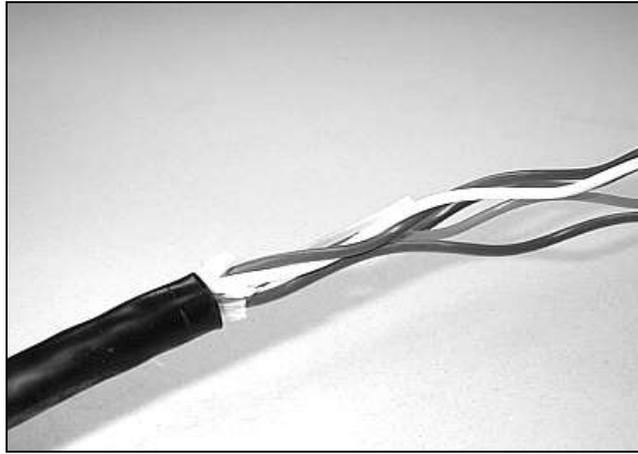

Figure 10 - Unwrap the buffer tubes.
4.10 Carefully unwrap the buffer tubes from one another and remove any remaining water blocking threads between the tubes and the central strength member (Figure 10).